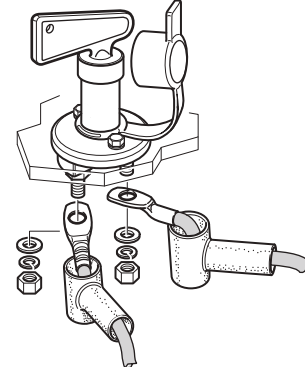

Fig. 47
- ▶ Connect the cable connections to the battery cut-off switch and secure with washers and nuts (Fig. 47). Tighten the nuts to 10 Nm.